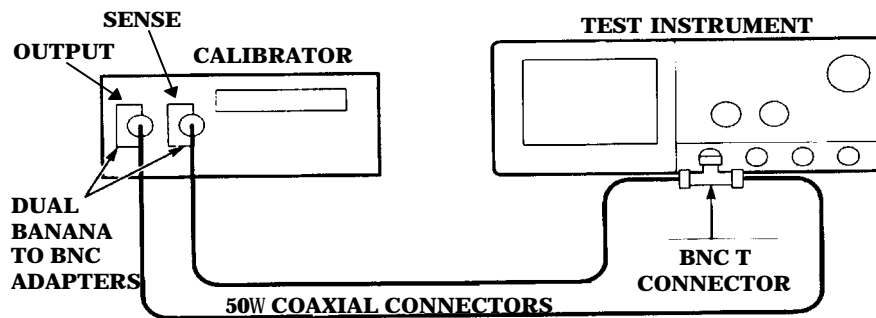

Figure 9. Equipment setup.
- (18) Press front-panel **MEASURE** key.
- (19) Press main-menu **Remove Measrmnt** key.
- (20) Press side-menu **Measurement 1** key.
- (21) Press front-panel **WAVEFORM** key.
- (22) Press main-menu **Save Wfm Ch 1** key.
- (23) Press side-menu **To Ref 1** key to save probe compensation signal reference.
- (24) Remove equipment setup.
- (25) Press front-panel **MORE** key.
- (26) Press main-menu **Ref 1** key.
- (27) Press **CH 1** key.
- (28) Connect equipment as shown in figure 9 below.